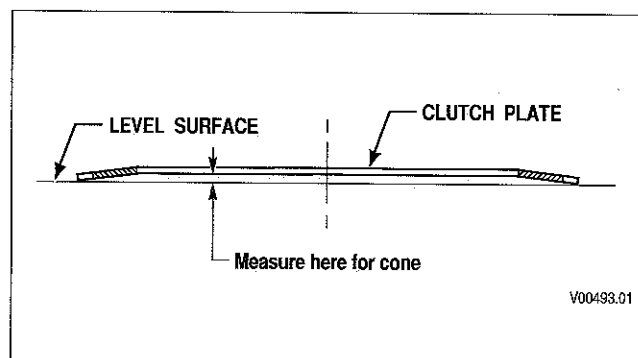

Figure 3-4. Method of Measuring Clutch Plate Cone
### n. Inspecting Clutch Plates (Figure 3-4)
3. The amount of clutch plate cone is determined by measuring the distance between the inside diameter of the plate and a level surface (Figure 3-4). Discard plates having excessive cone. (Refer to Wear Limits, Section 7).